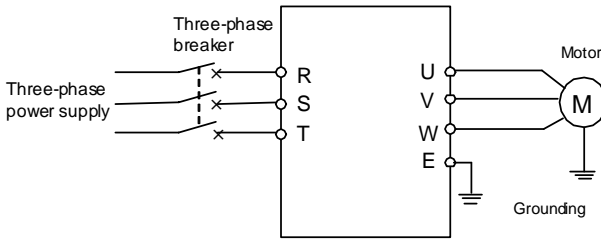

Figure 5-3 Wiring for the operation of SVC mode
- Connect as per Figure 5-3;
- Press  key to start frequency inverter. If the name plate parameters (F2.0.00 ~ F2.0.04) of the motor are modified in ③, the primary static parameter identification will be started automatically, the frequency inverter will output 0 frequency and the auxiliary display column will display the current output current (not limited by F0.0.13 at this time). When the display current is stable as 0.0, the automatic learning is finished and operation is started;